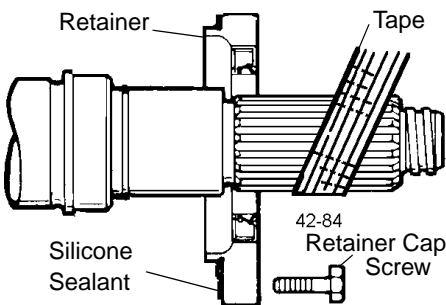
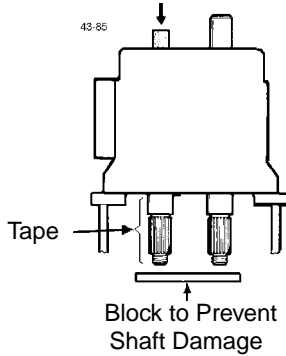

Figure 71 - Remove Bearing Retainers
Figure 73 - Press Shafts from Gear Case
NOTE: Protect the liquid end of the shafts by wrapping them with tape. See Figure 71 and Figure 73.
3. Remove the front bearing retainer screws and pull off the bearing retainers (Figure 71). If a retainer is stuck, leave it in place; it will press out when the shaft is removed.
- Place the gear case on an arbor press with the liquid end facing down. Protect the shaft ends with a wood or plastic block (Figure 73) and press the shafts out of the gear case. See Table 9, "Arbor or Hydraulic Press Required (Tons)," on page 48.